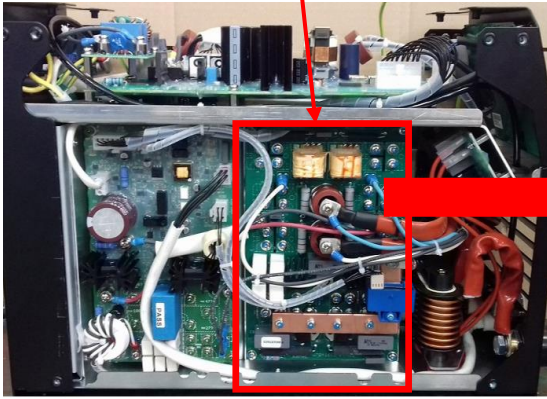

Figure 8 – OUTPUT POWER board location
3. Locate the Output Power board on the left side of the machine. See **Figure 8**.